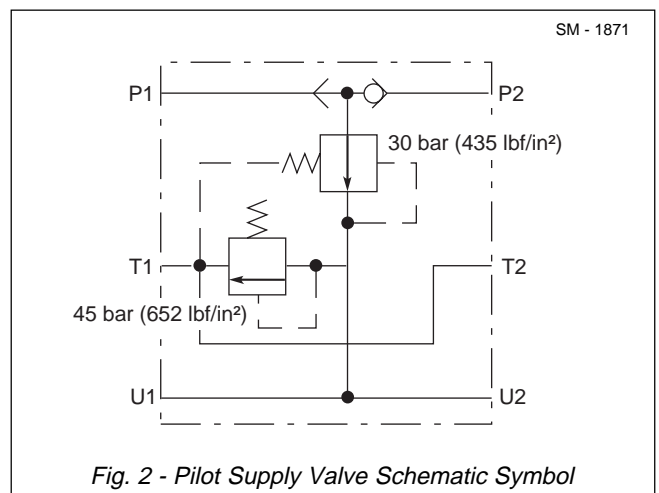
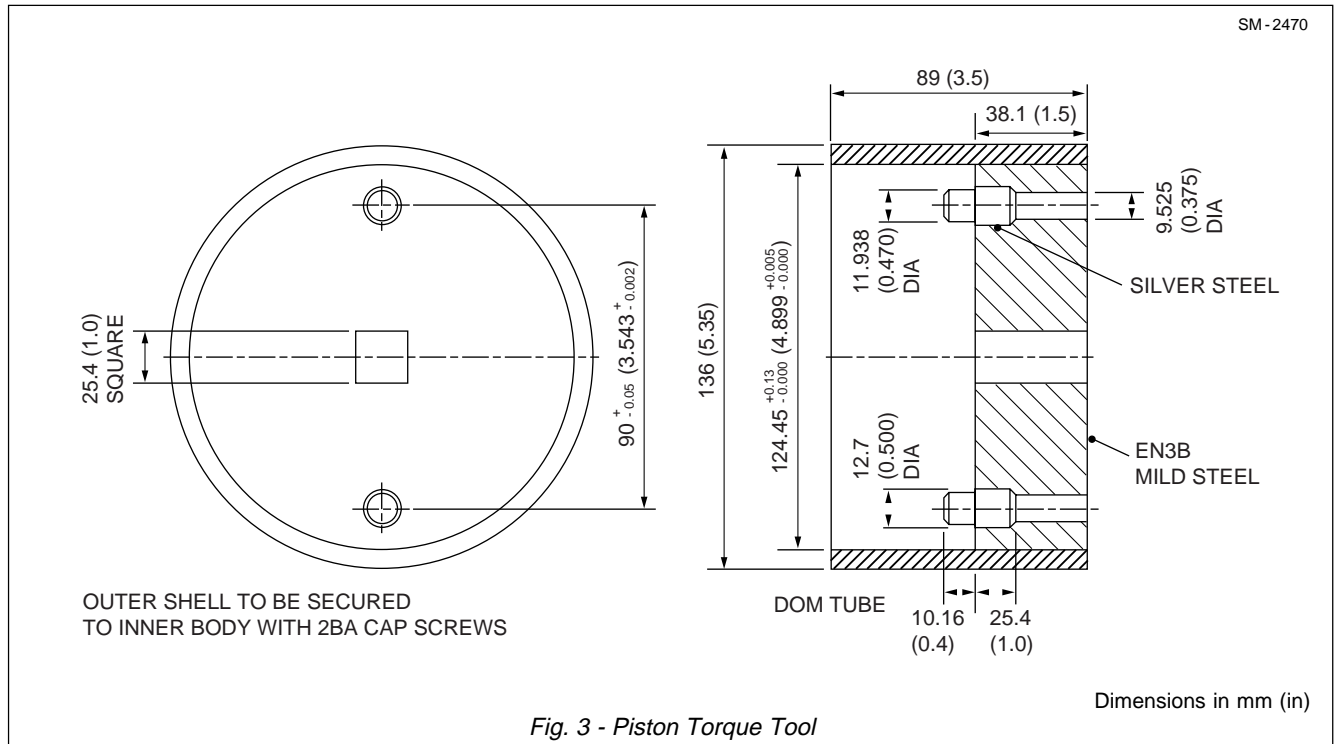

Fig. 2 - Pilot Supply Valve Schematic Symbol
Fig. 3 - Piston Torque Tool
Mounted off a bracket on the rear right hand cab leg, the pilot supply valve is located in the hydraulic servo control lines between the accumulator and the body control valve. See Fig. 2 for schematic symbol.
1. Ensure clean working conditions, remove any port plugs thus allowing easy entry of air into cylinder body (1), preventing a vacuum when parts are withdrawn from cylinder body (1).
2. Remove circlips (21) from base end of cylinder body (1) and piston rod (2) end. Press out spherical bearings (20).
3. Remove lock ring (10) from end cap (3).
4. Using special tool which can be fabricated as shown in Fig. 2, unscrew end cap (3) until thread is disengaged from cylinder body (1).
5. Support piston rod (2) at the rod eye and withdraw piston rod (2) from cylinder body (1). Ensure centre lines of piston rod (2) and cylinder body (1) remain coincidental during removal of piston rod (2).
6. Place piston rod (2) on supports which will not damage the piston rod diameter.
7. Remove and discard piston seals (13) and wear rings (14) from piston (12).
8. Remove grub screw (15) from wear ring (14) groove in piston (12).
9. Provide an anti-torsion device through piston rod (2) eye to allow unscrewing of piston (12). Using special tool which can be fabricated as shown in Fig. 3, unscrew piston (12) from piston rod (2).
10. Remove cushion spear (11) and 'O' rings (16) from piston rod (2). Discard 'O' rings (16).
11. Remove cylinder end cap (3) from piston rod (2). Remove and discard cushion sleeve (4), circlip (5), rod seal (6), nylon ring (22), wiper (7), 'O' rings (8 & 9) and back up ring (17).
1. Press spherical bearing (20) in base end of cylinder body (1) and piston rod (2) end. Secure spherical bearings (20) with circlips (21).
2. Install new cushion sleeve (4), circlip (5), rod seals (6), nylon ring (22), 'O' rings (8 & 9) and back up (17) in end cap (3). Load end cap (3) over piston rod (2) thread, taking care not to damage rod seal (6) on the thread.
3. Install new 'O' rings (16) on piston rod (2) and replace cushion spear (11).
4. Apply Loctite 243 to first two threads of piston (12). Using special tool which can be fabricated as shown in Fig. 3, screw on piston (12) and tighten to a torque of 1 356 Nm (1 000 lbf ft).
5. Insert piston grub screw (15) through wear ring (14) groove in piston (12) and into groove machined in piston rod (2). Tighten grub screw (15) to a torque of 49 Nm (36 lbf ft). Ensure the extreme of grub screw (15) is below the level of wear ring (14) groove.
6. Ensure cushion sleeve (18) and circlip (19) are secure in piston (12).
7. Insert new piston seal (13) and new wear rings (14) in piston (12).
8. Fully grease piston (12) OD and 'O' rings (8 & 9) in end cap (3).
9. Sling assembled piston rod (2) in a manner to allow careful leading of the assembled piston rod into cylinder body (1). Take care not to damage piston seal (13) on cylinder body (1) threads.
10. After piston (12) is inserted in cylinder body (1), push the piston rod assembly into cylinder body (1) maintaining coincidental centre lines of piston rod and cylinder body.
11. Before piston rod (2) is fully home and, with slings still taking some of piston rod (2) weight, engage end cap (3) thread and screw home.
12. Push piston rod (2) to the fully retracted position and tighten end cap (3) to a torque of 237 Nm (175 lbf ft).
13. Re-drill end cap (3) for lock ring (10), 3 x 12 mm (0.125 x 0.50 in) deep, if necessary. Insert lock ring (10) in end cap (3).